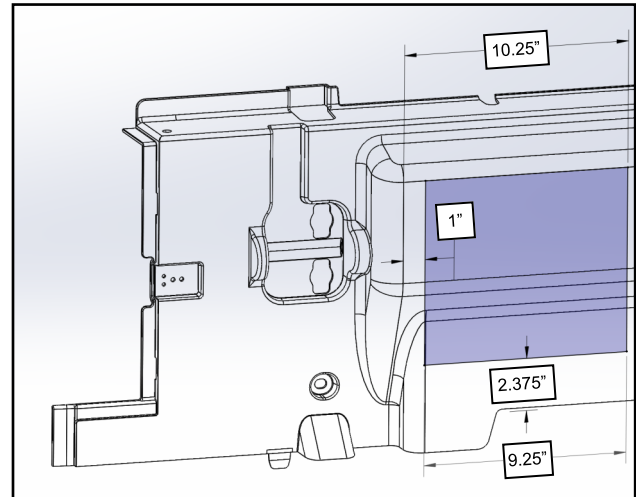

Fig. 2.7 (Rework Rear Seat Cover, Cut)
- 2.7 Using figure 2.7 as reference, mark-up the passenger side of the rear seat cover and cut out the hole in the cover.